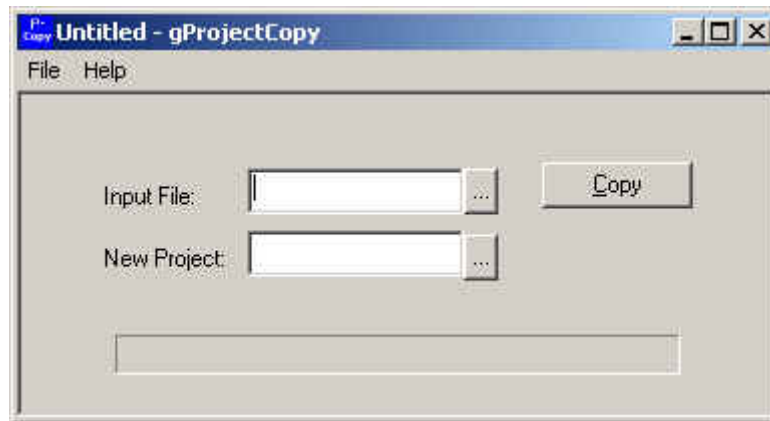

**Figure 24. Project Merge Dialog Box.**
*gProjectMerge* is a program that lets users combine multiple projects into one single project file. This is useful in the case when data acquisition is interrupted and a single project is desired. **Note** that *gProjectMerge* assumes that all acquisition parameters are identical (i.e. perhaps a run was stopped after a few sets, and a new project was created and begun immediately). *gProjectMerge* is **not** intended to combine projects with different parameters – if doing so, it is at your own risk!. Figure 24 shows the *gProjectMerge* interface.